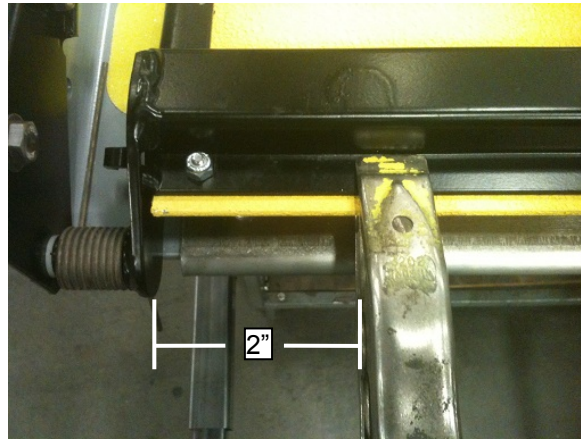

FIGURE 2-12. PLACE CLAMP 2" (5 CM) FROM LH SIDE OF BRIDGEPLATE
- 4) Refer to **Figure 2-12**. Place a clamp 2" (5 cm) from left side of bridgeplate frame.